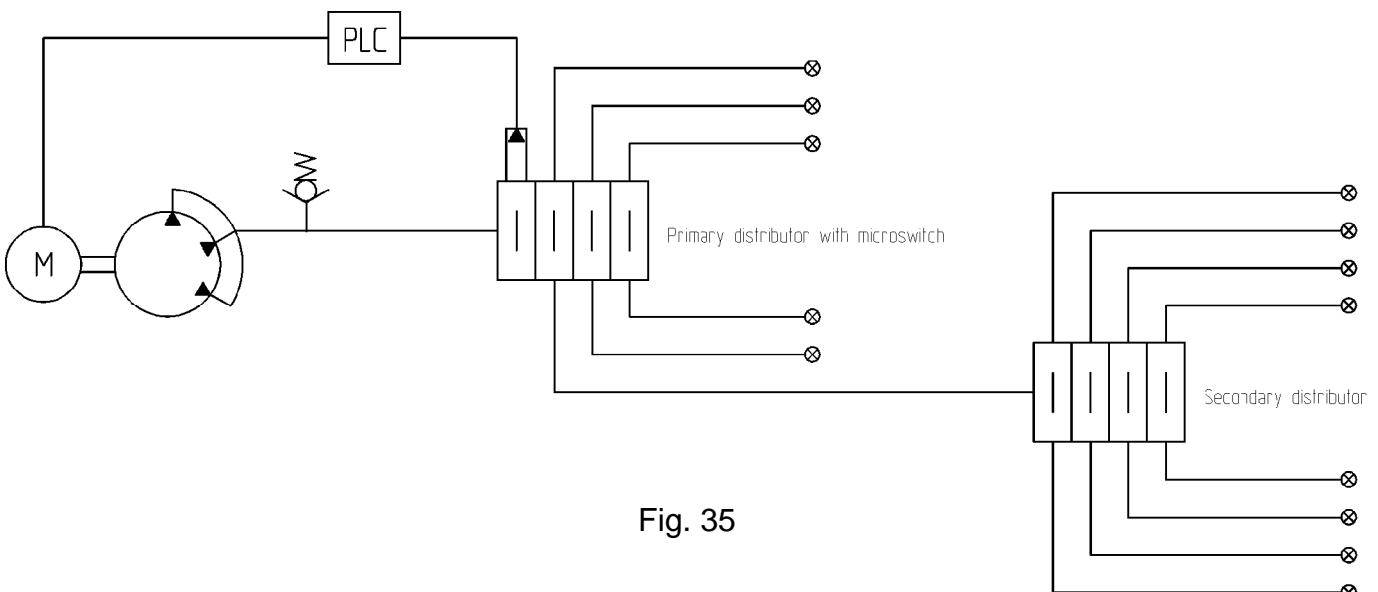

Fig. 35
- If it is desired to monitor the grease discharge visually or automatically the lubrication points should be coupled to one or more progressive distributors with indicator pins or cycle contacts (microswitches or inductive transducers), connected to control unit 101 721 or the PLC of the machine. See Fig. 35 below.